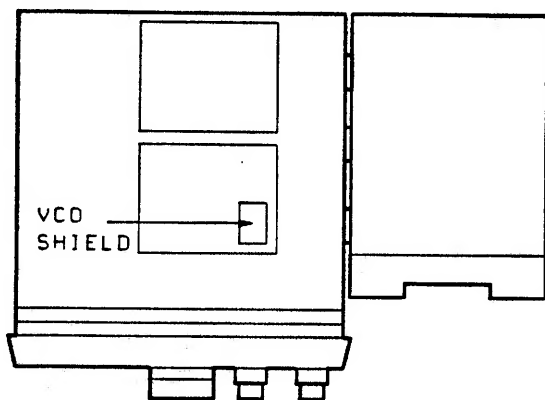

FIGURE 3
4. Replace the four VCO shield plate screws with the type listed above. Figure 3